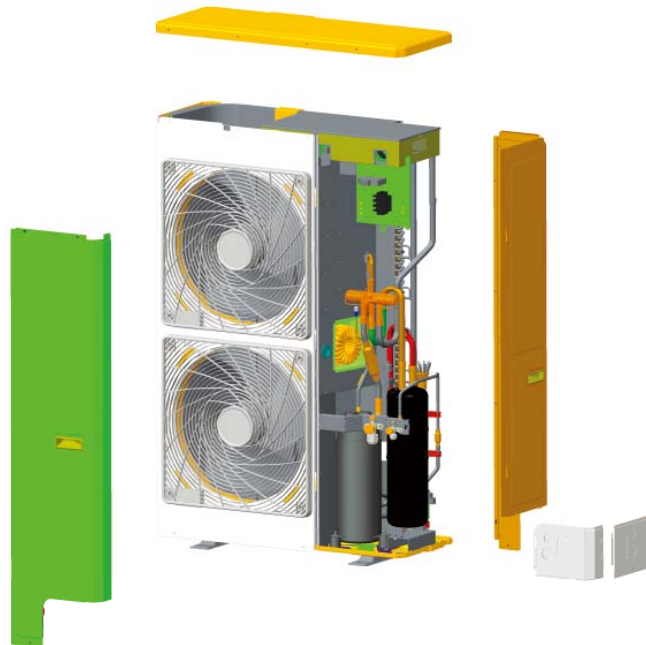

Fig. 2
- Loosen the two tapping screws, and remove the cover, the front side plate and right side plate.[Fig. 2]